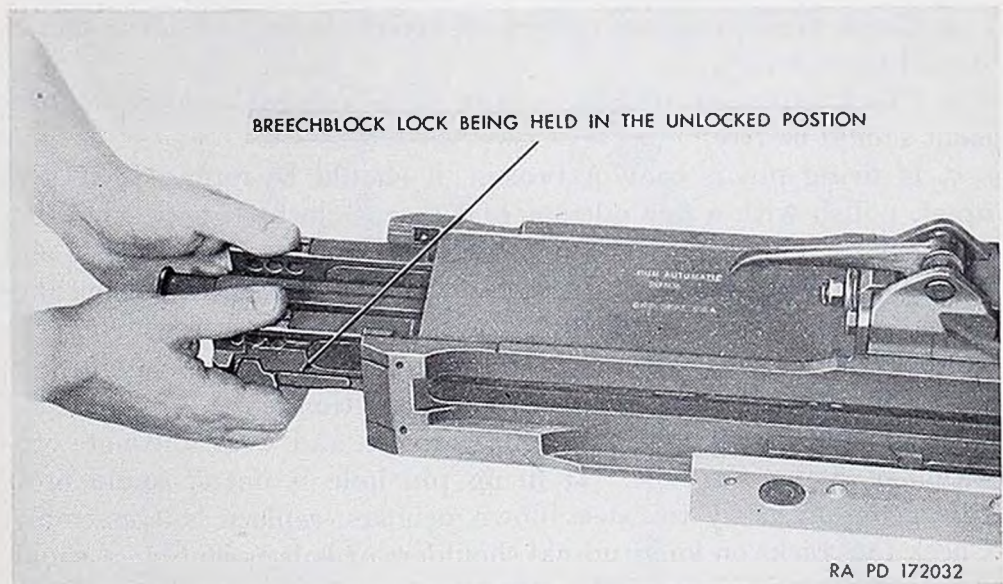

Figure 82. Removing breechblock from receiver.
c. Move breechblock to the rear. As the breechblock starts to come out of the receiver, take hold of breechblock lock and hold it in the unlocked position, as shown in figure 82. Failure to do this may cause the breechblock to become jammed in the rear portion of the receiver as it is being pulled out. Be careful not to drop the breechblock lock.